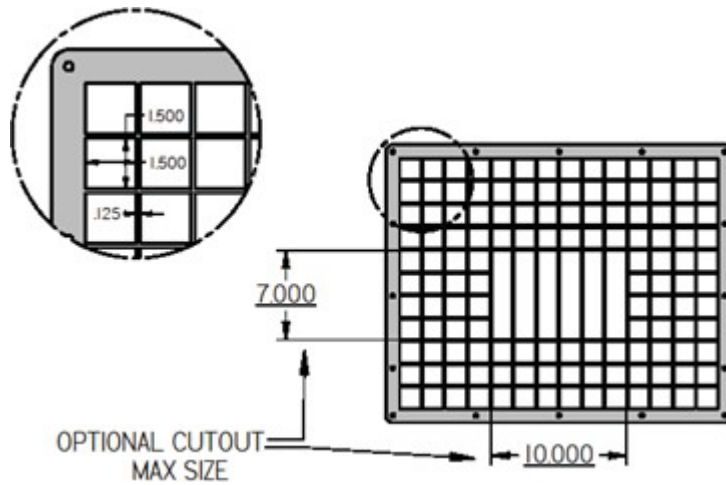

Figure 2 Rock Guard
- A 7 inch by 10-inch section may have vertical bars only. See diagram on FIG 2